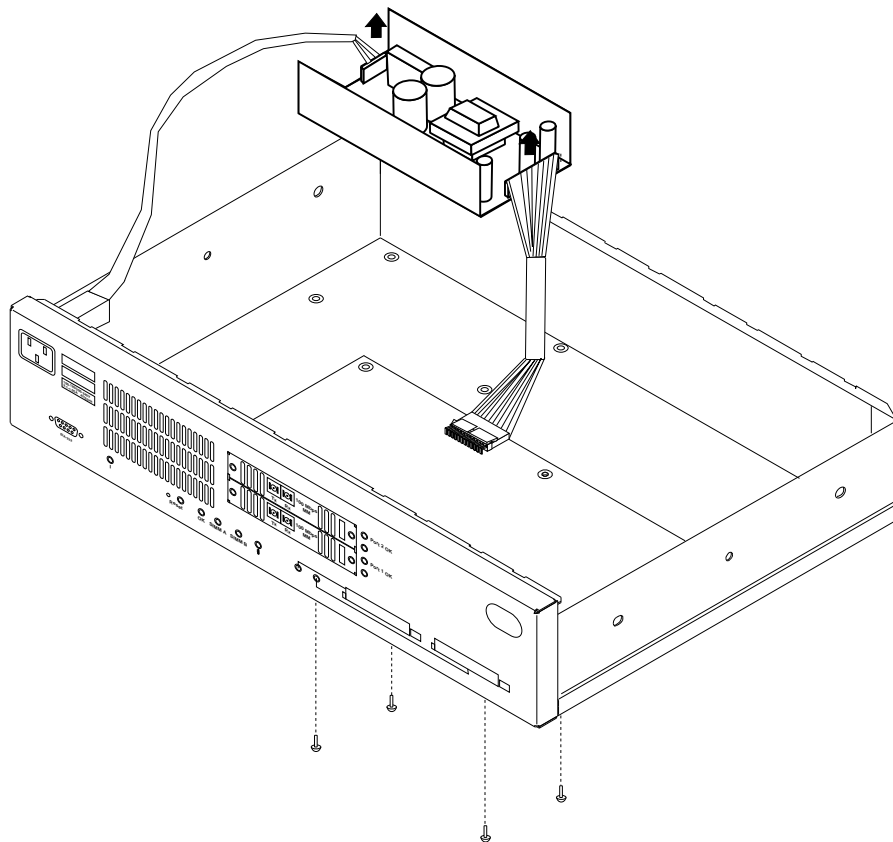

Figure 2-2. 8210 MSS Server Power Supply
- 1** With the top cover off, set the MSS Server on its edge where you can see the four screws that fasten the ac power supply in place (from the bottom side). See Figure 2-2.